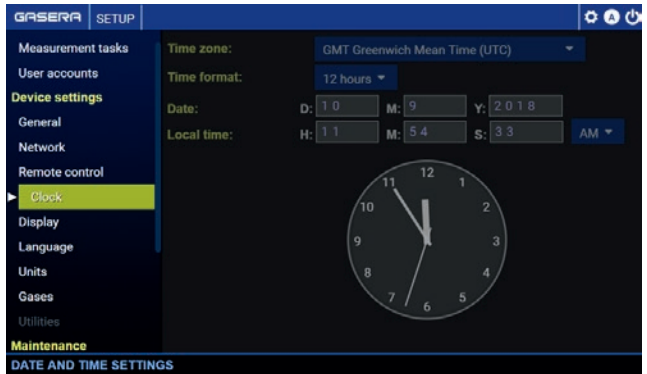

Figure 62. The Clock view for setting the time and date for the device.
**Clock** view, presented in Figure 62, enables adjustment of instrument internal clock to match the current local time and date.